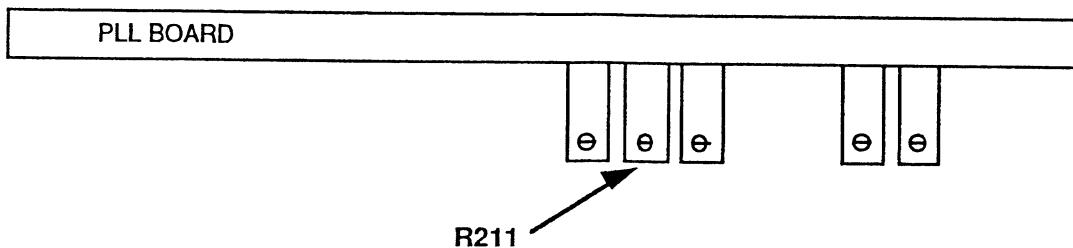

Figure 4-14. R211 Locator
3. Use the Knob to step between the triangle and square waves. Slide the cover back. Adjust R211 (see figure 4-14) on the PLL board until the peak to peak amplitude of the triangle matches the peak to peak amplitude of the square wave. Slide the cover back on.